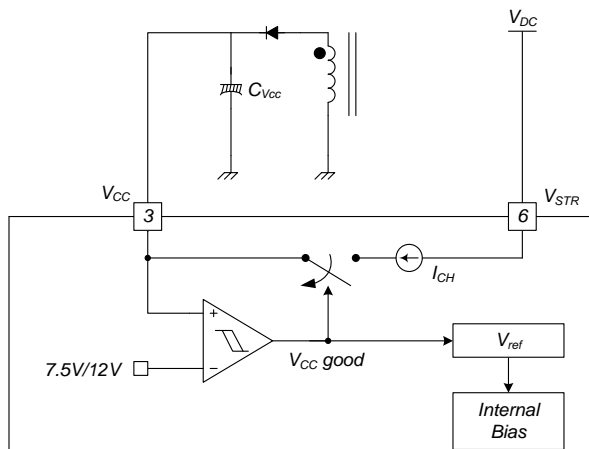

Figure 17. Startup Block
**1. Startup:** At startup, an internal high-voltage current source supplies the internal bias and charges the external capacitor ( $C_{VCC}$ ) connected to the  $V_{CC}$  pin, as illustrated in Figure 17. When  $V_{CC}$  reaches 12V, the FSGM0465R begins switching and the internal high-voltage current source is disabled. The FSGM0465R continues normal switching operation and the power is supplied from the auxiliary transformer winding unless  $V_{CC}$  goes below the stop voltage of 7.5V.